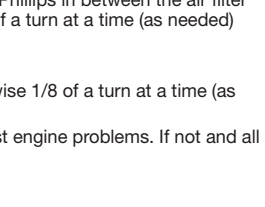

Fig. 18
- Open the air filter cover. Unscrew the knob on the left side of the cover. Swing the cover out (Fig. 18).
- Remove the air filter (Fig. 18).
- Replace the filter (Fig. 18).
- Make sure the back plate is correctly positioned (Fig. 18).
- Swing the air filter cover closed and tighten the knob (Fig. 18).